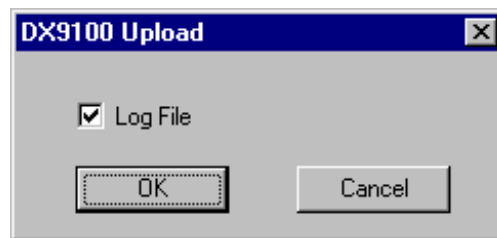

Figure 11-7: GX Upload Dialog Box
8. Click Upload to initiate the upload process. The DX9100 Upload dialog box appears (Figure 11-7).